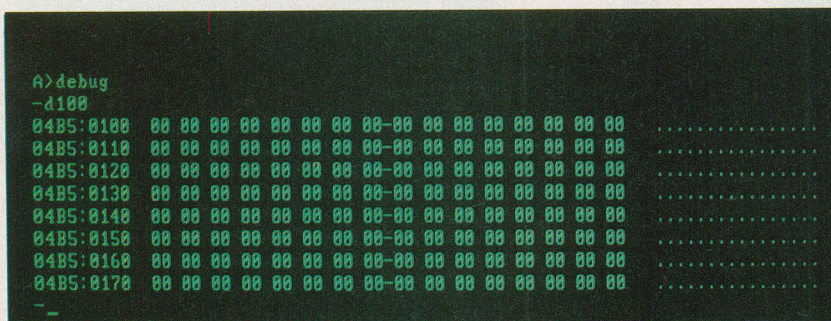

Fig. 2
**The "D" Command.** You can tell DEBUG what to do by typing in single-letter commands, usually followed immediately by one or more numbers. When we refer to these single-letter commands here we'll usually use upper-case letters, like "D," to make them stand out. However, when you type them in you can use either upper or lower case. For example, enter the letter "d" followed by the digits "1" "0" "0". You should see a display like the one shown in Fig. 2.